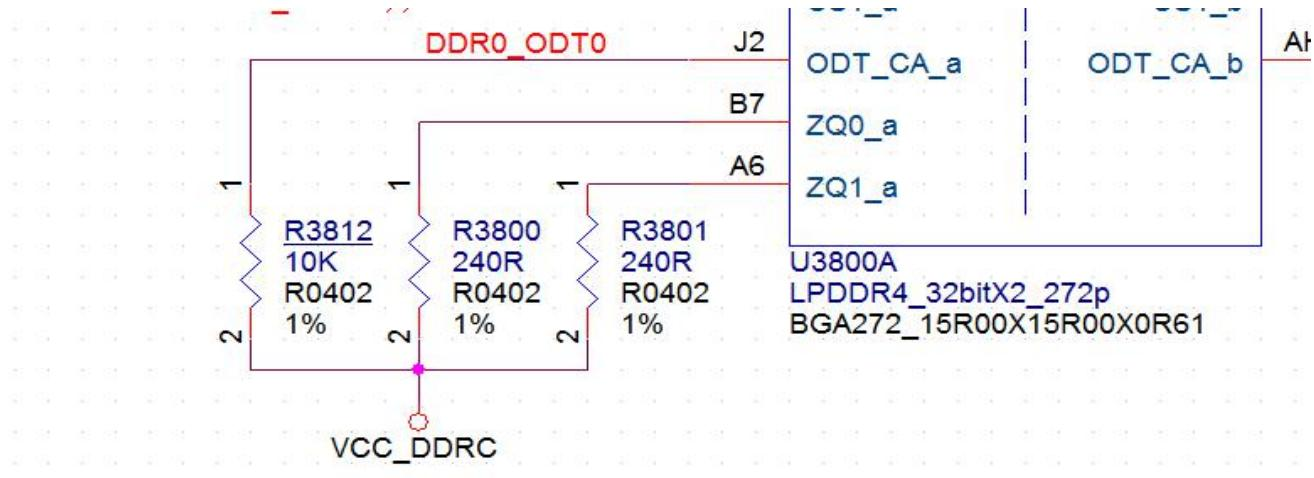

Figure 4-13 LPDDR4 LPDDR4 ODT_CA
- In LPDDR4 design, all data signals (DQ) of RK3399 must be connected to LPDDR4 pin-to-pin. That is, DDRn_D0-D15 must be connected to one channel D0-D15 of LPDDR4 pin-to-pin, and DDRn_D16-D31 must be connected to another channel D0-D15 of LPDDR4 pin-to-pin. The reason is that for one channel(16bits) LPDDR4, the MRR function needs to use DQ[0:7], the CA training function needs to use DQS0,DQ[0:6],DQ[8:13], and the RD DQ calibration function needs to use DQ[0:15] and DMI[1:0].
- The ODT of RK3399 must be floating, and the ODT_CA of LPDDR4 must pulled-up to VDDQ. shown as Figure 4-12 and Figure 4-13.